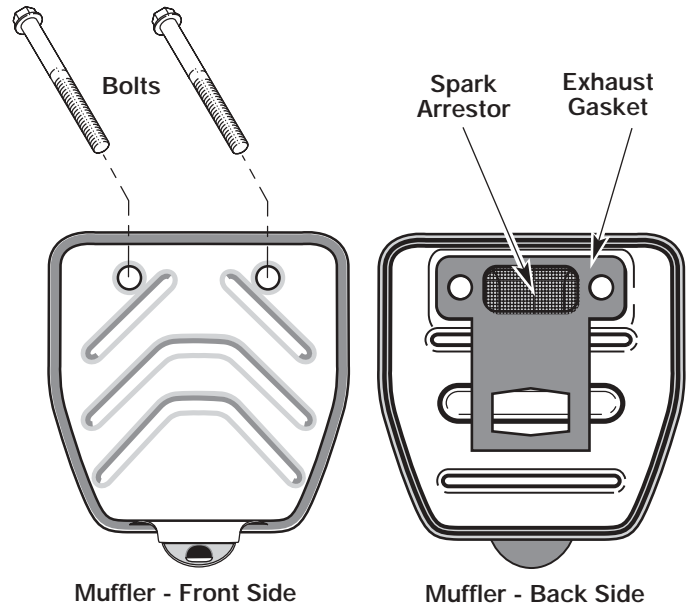

Fig. 28
2. Locate muffler front and the two (2) bolts securing it to the engine (Fig. 28). Remove the two (2) bolts using a flatblade screwdriver or 5/16-inch socket or nut driver. Pull muffler off of the engine.
3. Turn muffler over to the back side and locate the exhaust gasket. Remove the muffler gasket from the muffler (Fig. 28).
7. Place the exhaust gasket against muffler's back side. Align the gasket bolt holes with the bolt holes in the muffler. While holding exhaust gasket in place, insert the bolts into the muffler's front side (Fig. 28).